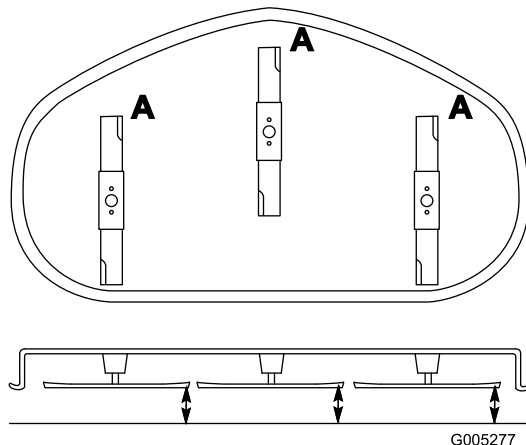

Figure 37
2. Rotate the blades until the ends face forward and backward (Figure 37). Measure from a level surface to the cutting edge, position A, of the blades (Figure 37). Note this dimension.